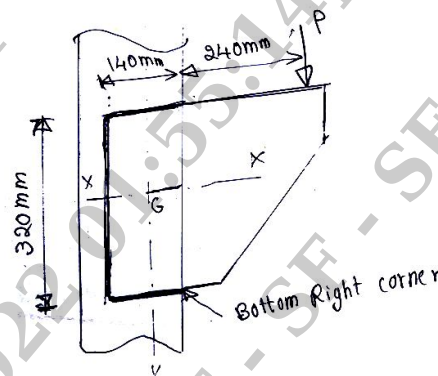

Fig. Q3 (b)
- Determine the maximum load that can be resisted by the bracket shown in Fig. Q3 (b) by fillet weld of size 6 mm and shop welded. Take $f_u = 410 \text{ N/mm}^2$. (12 Marks)